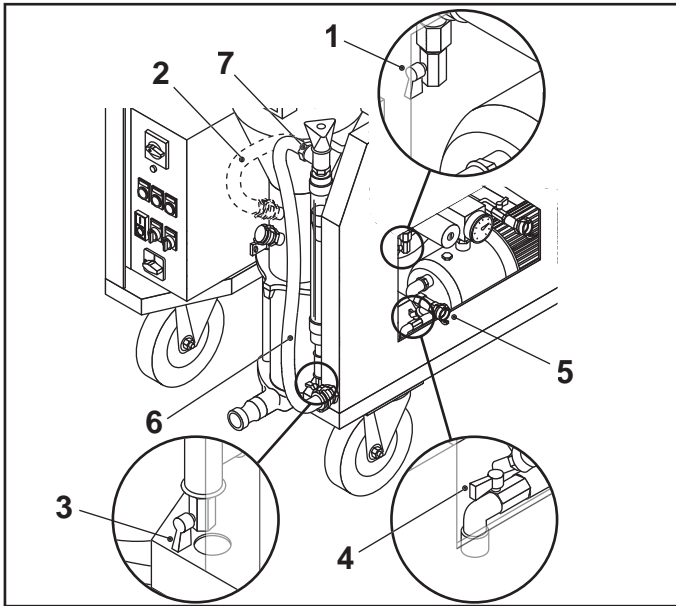

FIG.32
- Stop the material pump after a few seconds, positioning the master switch (FIG.32-REF.1) in position 0 (zero).
- Disconnect the pipe (FIG.32-REF.2) from the mixing chamber.
- Connect the air pipe (FIG.32-REF.6) to the quick-release coupling (FIG.32-REF.7) or (FIG.32-REF.5).
- Open the bleed cocks (FIG.32-REF.1-3-4).